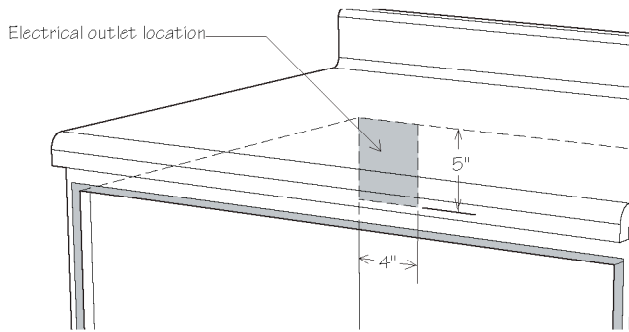

Figure 7
- Dimensions that are shown in Figure 1 (for 24") or Figures 3 and 4 (for 30") must be used. Given dimensions provide minimum clearance. Locate electrical outlet in the shaded area in the upper left-hand corner of the cutout. See Figure 7.